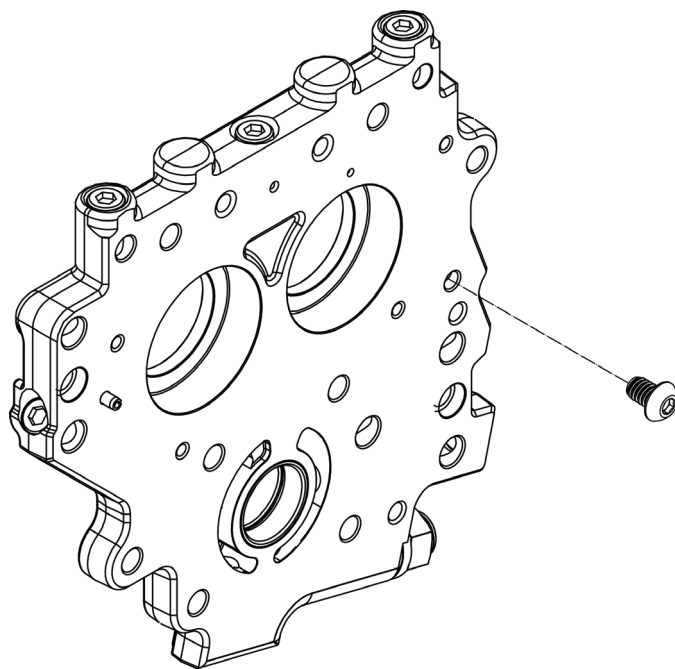

Figure 1
- Some early 1999 model engines do not have a chain oiler boss. See Pictures 3 and 4. If Your engine does not have this boss, screw #500-0346 must be installed to block the oil hole in the back side of the cam plate. Install with red thread locker and tighten to 70 in-lb. **See Figure 1.**